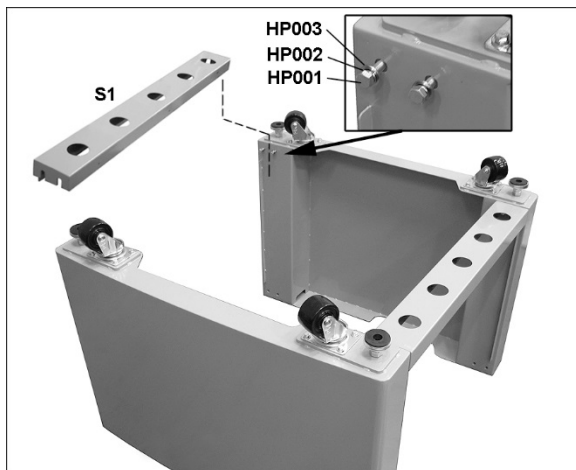

Figure 7-10
4. Partially insert eight screws with washers (Figure 7-10) into threaded holes inside both panels. Push washers against screw head.